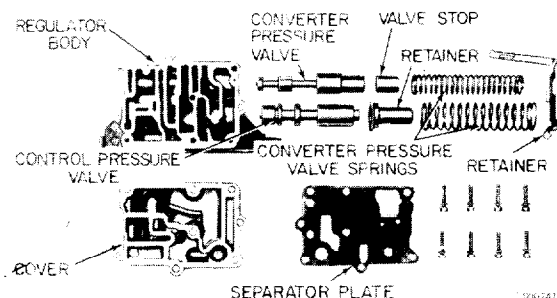

Figure 7-23. Pressure Regulator Parts.
(1) Remove the valves from the regulator body.
(2) Remove the regulator body cover attaching screws and remove the cover (fig. 7-23).
(1) Position the separator plate on the regulator cover.
(2) Position the regulator cover and separator plate on the regulator body, and install the attaching screws. Torque the screws to 20 – 30 in./lbs.
(3) Insert the valves in the pressure regulator body (fig. 7-23).